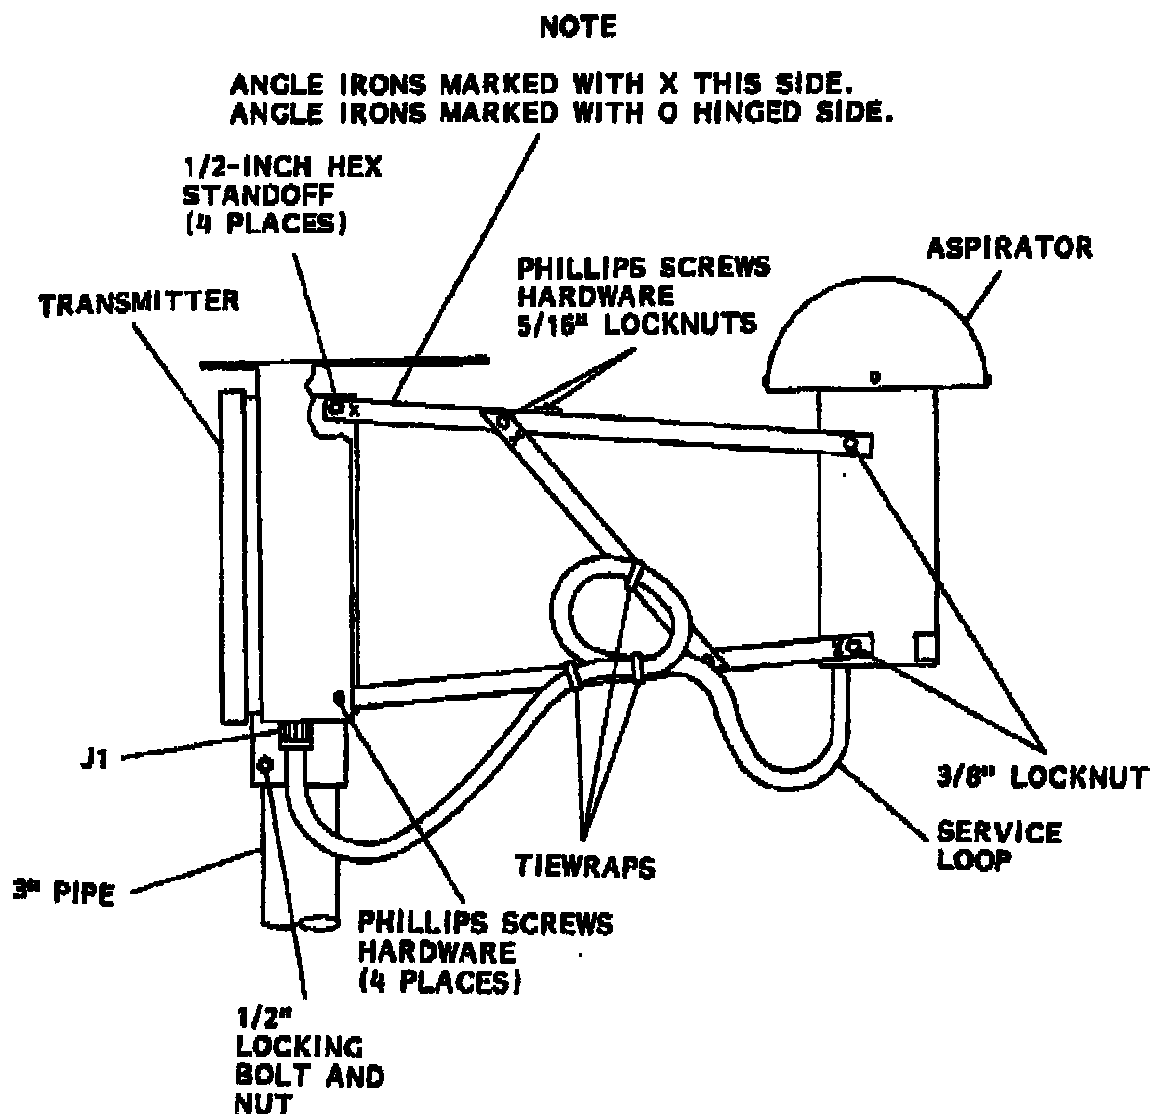

Figure 5.2.1. Temperature/Dewpoint Sensor Installation Diagram
10. Position the solar shield over transmitter with longest side facing aspirator (fig 5.2.1).
12. Using cable tie wraps, secure aspirator cable to support arm assembly as shown on figure 5.2.1. Be sure to leave service loop to allow removal of dewpoint sensor fan without cutting tywraps.